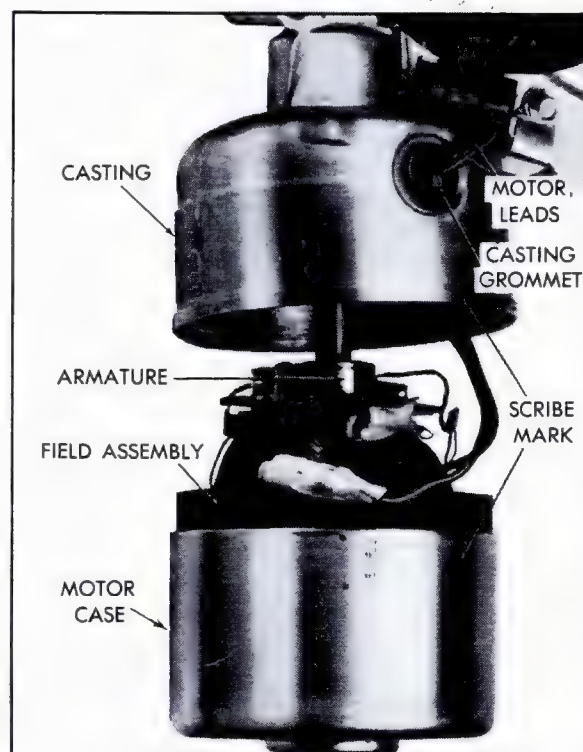

Fig. 12-19 Separating Motor Case from Casting
1. Scribe a reference line along the side of the casting and motor case to insure proper assembly, Fig. 12-19.
the motor case and field assembly and armature away from the casting, Fig. 12-19.